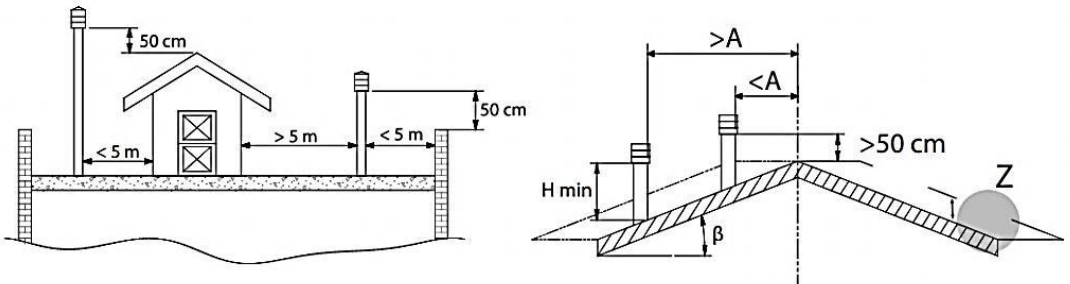

Figure 15
- A – see figure 15 and chapter 4.5.4.
The chimney must be **at least 0,5 meters remote above the roof ridge** (see *figure 15*).
- installed **to enable proper dispersion and dilution of combustion products outside the reflux zone** (backflow) because the counter pressure occurs here. Therefore, it is necessary to adhere to limitations listed in *figure 15*,